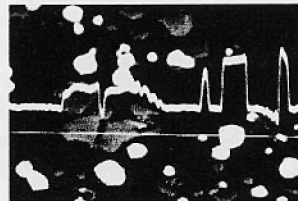
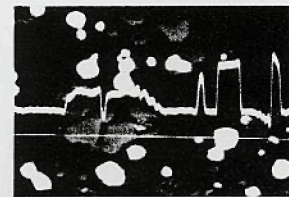
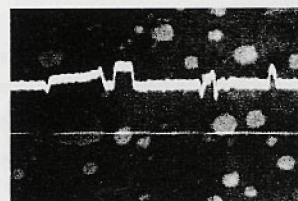
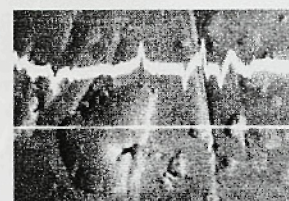

Figure 1: Uncoated surface, relative response is 100%.
Figure 2: Carbon coated surface. Response time: 89%. Applied using yarn evaporator. Thickness not determined.
Figure 3: Gold coated (~4 nm). Response: 30%
Figure 4: Gold sputter coated (~12 nm). Response: Almost none. Most is topographic, not composition
precipitates of several atomic numbers (Z), best seen in the "uncoated" condition (Figure 1). Composition contrast from the specimen is shown to reduce as the coating "Z" is raised and/or the coating thickness increased.
Graphic results of the experiment are shown in Figures 1 - 4. Figure 1 is the uncoated specimen that is referenced as a 100% BSE response. The carbon coated surface is shown in Figure 2 and exhibits a response that is 89% of the uncoated surface. This thickness, applied using a "yarn" type evaporator is estimated to be in the realm of 100 nm. Figure 3 shows the reduced response from an indicated 4 nanometers of gold. It is only 30% as intense as the uncoated surface. In Figure 4, additional 8 nanometers of gold were applied for a total thickness of 12. At this thickness and beam potential, almost all composition contrast is lost. Nearly all BSEs are originating from within the coating rather than the specimen. The accuracy of the gold thickness is not established. A quartz crystal (oscillator) supplied as an accessory to the sputter coater was used to obtain the reported coating values.